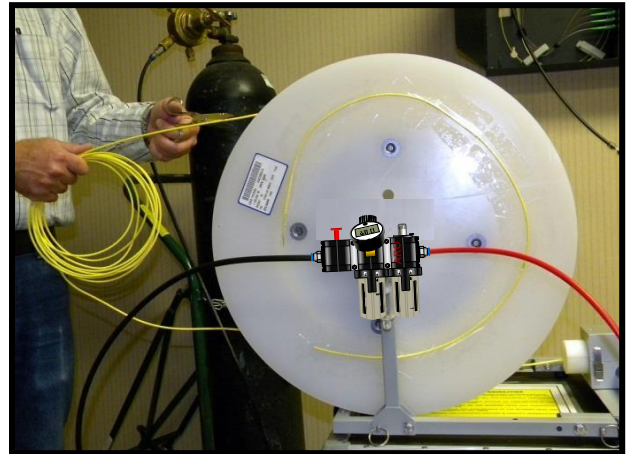

Figure 10
11.3 Carefully manually pay off recommended 10'-15' of Fiber Bundle length from the reel for fiber termination purposes; more or less length if required / desired. When enough length is available, cut Fiber Bundle from reel. **See Fig. 10**
11.6 Carefully uncouple Second Tee Coupling and 8mm Clear Tube from tube span. **See Fig. 10 - ②**
11.7 Carefully slide Second Tee Coupling and 8mm Clear Tube off cut end of Fiber Bundle and retain. **See Fig. 10 - ③**